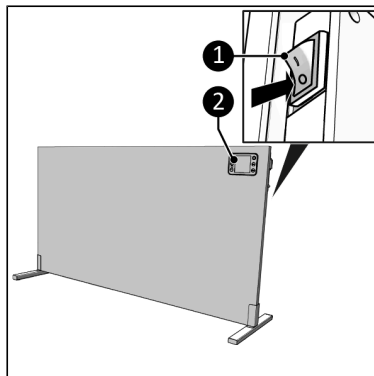

Figure 35.
1. Set the main switch to the ON position (Figure 35, pos. 1).
2. The display (Figure 35, pos. 2) will show OFF.
- the control panel (Figure 35, pos. 2) or;
5. The display (Figure 35, pos. 2) will first show the ambient temperature.